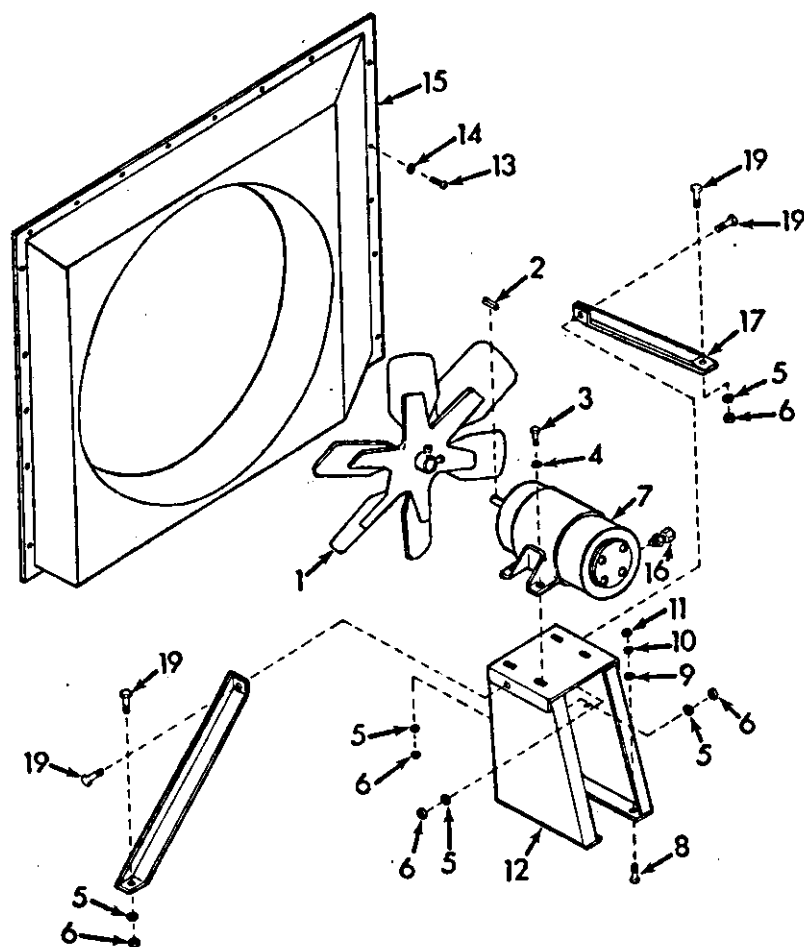

Figure 5-25. Condenser Fan and Motor (B2)
(1) Use a multimeter set on 20 OHMS scale to check continuity between all three motor leads. If there is no continuity between any pair of leads, the motor winding is open. Replace motor.
(2) Use a multimeter set on 20 OHMS scale to check for continuity between each lead and the motor housing. If there is continuity between any lead and motor housing, the motor winding is shorted. Replace the motor.
(3) Use a multimeter to test stator insulation by checking between each lead and motor housing. A reading of less than 500,000 ohms indicates insulation failure. Replace motor.
(4) Check continuity between S12 (motor thermostat) leads. If there is no continuity, this indicates an open thermostat. Replace motor.
e. Removal (See figure 5-25.)
(1) Tag and disconnect leads.
(2) Loosen two setscrews in fan hub.
(3) Carefully remove fan from motor shaft. Take care that shaft key is not lost.
(4) Remove four cap screws, flat washers, lock washers, and nuts from motor mounting feet.
(5) Slip motor out of unit.
(6) Remove fan from unit.
f. Installation (See figure 5-25.)
(1) Place fan in unit and slip motor into place.
(2) Place fan onto motor shaft and insert shaft key into fan hub and motor shaft keyway. Tighten setscrews.
(3) Center fan in fan shroud opening and secure motor with four cap screws, flat washers, lock washers, and nuts.